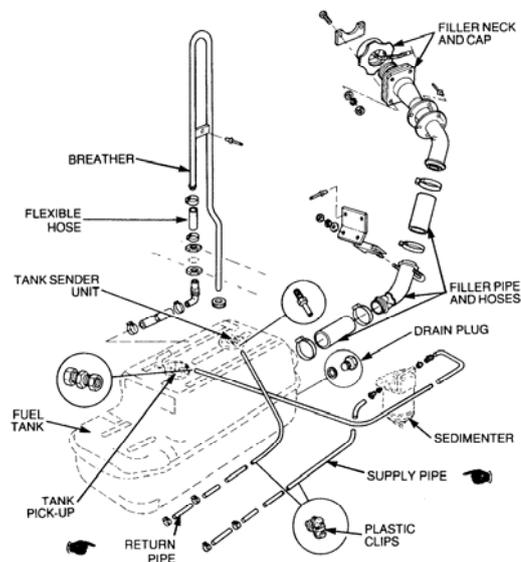

Figure 2 Fuel Tank Exploded View
- Remove the hexagonal head drain plug from the fuel tank (refer Figure 2).